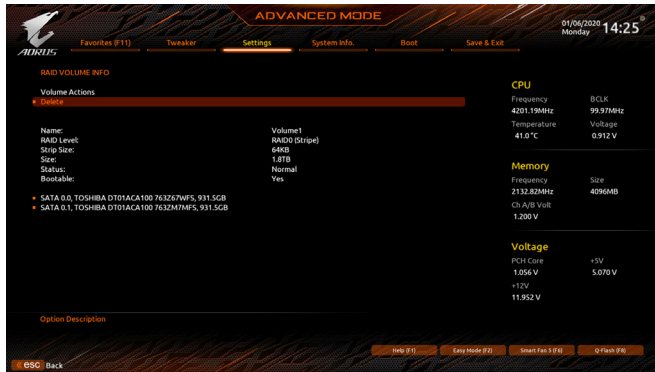

Figure 4
After completing, you'll be brought back to the **Intel(R) Rapid Storage Technology** screen. Under **RAID Volumes** you can see the new RAID volume. To see more detailed information, press <Enter> on the volume to check for information on RAID level, stripe block size, array name, and array capacity, etc. (Figure 4).